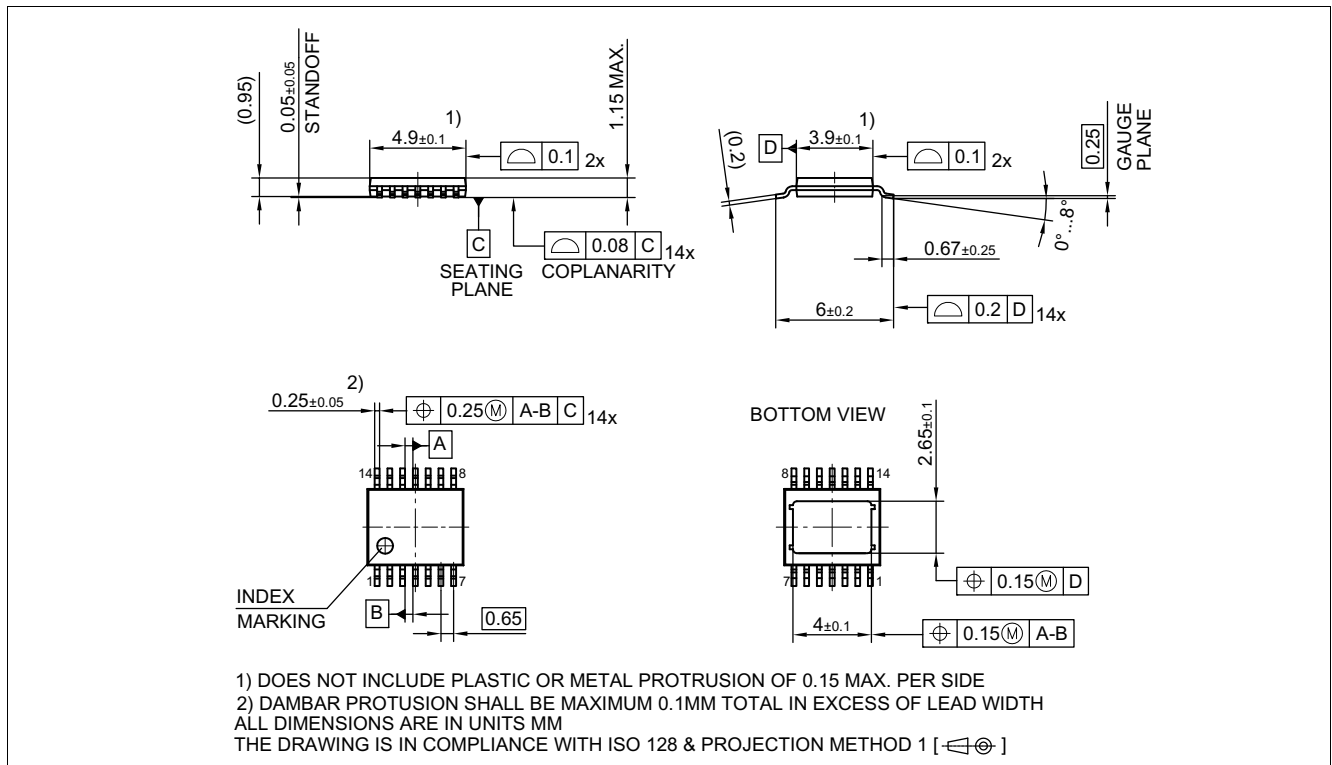
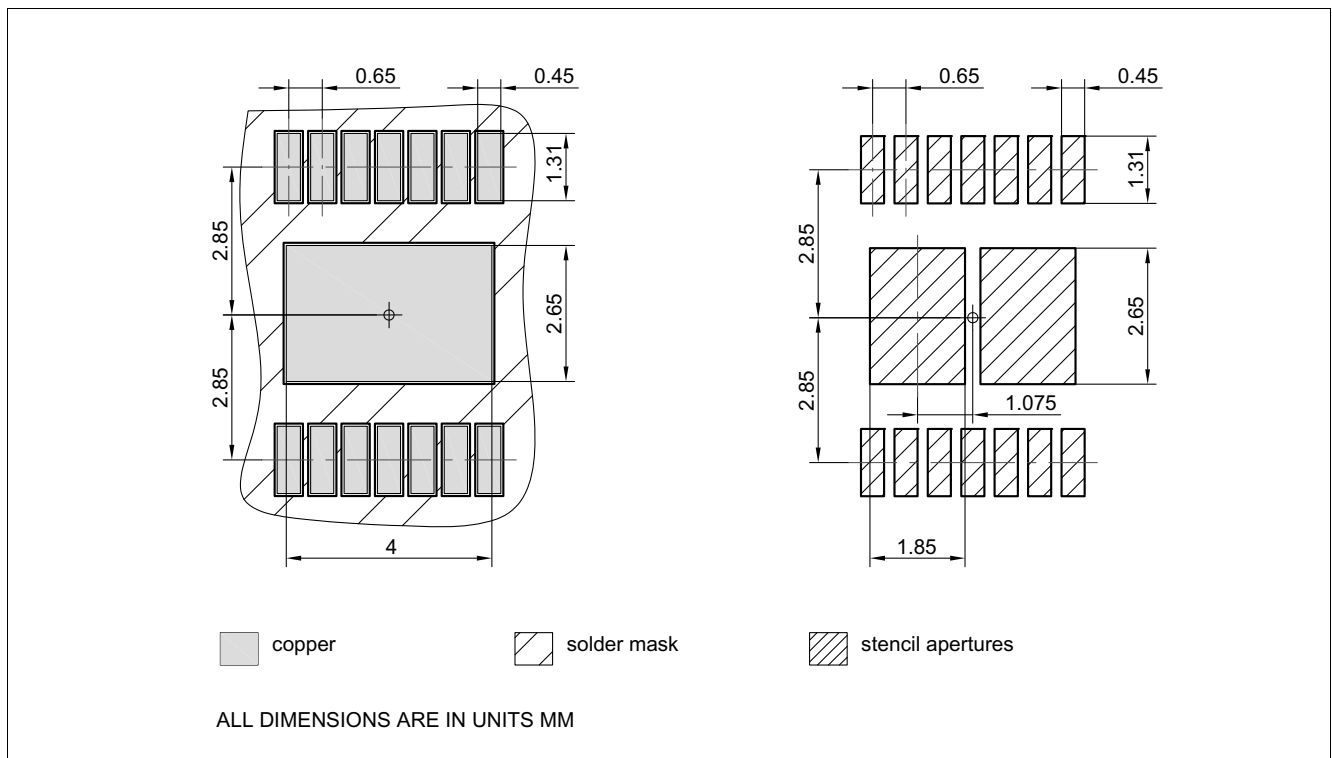

Figure 43 PG-TSDSO-14 (Thin (Slim) Dual Small Outline 14 pins) Package Outline
Figure 44 PG-TSDSO-14 (Thin (Slim) Dual Small Outline 14 pins) Package pads and stencil
1.01, 2019-06-26	<p>Chapter 9.2 updated ($2 V \rightarrow V_{DS(OLOFF)}$)</p> <p>General: updated (ReverSave™ → ReverseON)</p> <p>Figure 1 updated</p> <p>Chapter 1 updated ((inserted headline "Product Validation"), (Qualified in accordance with AEC Q100 grade 1 → Qualified for automotive applications. Product validation according to AEC-Q100 Grade 1.))</p> <p>General: updated Product Name (PROFET™+2 → PROFET™+2 12V)</p> <p>Page 1: updated figure product</p> <p>Table 23 updated punctuation</p> <p>Chapter 9.3.1 updated (typo)</p> <p>Page 1: updated (Package PG-TSDSO-14-22 → Package PG-TSDSO-14)</p> <p>Figure 29 updated</p> <p>Figure 43 updated (PG-TSDSO-14-22 (Thin (Slim) Dual Small Outline 14 pins) Package Outline → PG-TSDSO-14 (Thin (Slim) Dual Small Outline 14 pins) Package Outline)</p> <p>Figure 44 updated (PG-TSDSO-14-22 (Thin (Slim) Dual Small Outline 14 pins) Package pads and stencil → PG-TSDSO-14 (Thin (Slim) Dual Small Outline 14 pins) Package pads and stencil)</p> <p>Table 1 updated ((Symbol: $I_{VS(SLEEP)} \rightarrow I_{VS(SLEEP)_{85}}$), (Parameter: Minimum Overvoltage protection ($T_j = 25^\circ C$) → Minimum Overvoltage protection ($T_j \geq 25^\circ C$))</p> <p>P_9.6.0.6 updated (Note or Test Condition: removed unnecessary line-break)</p>